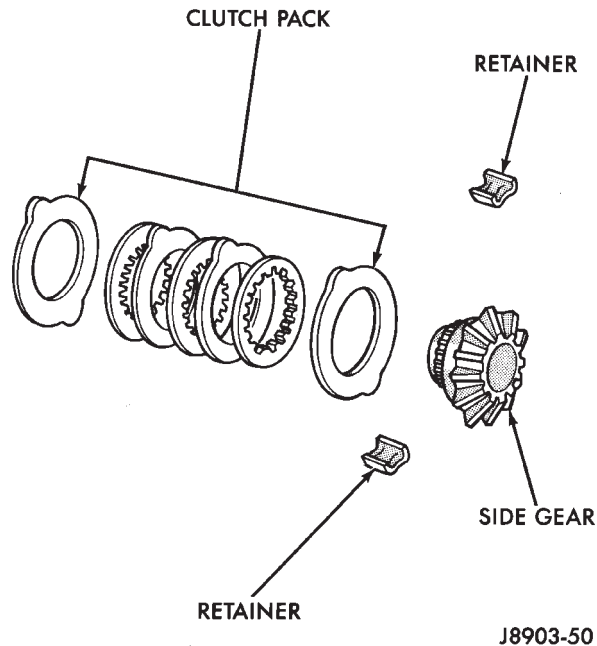
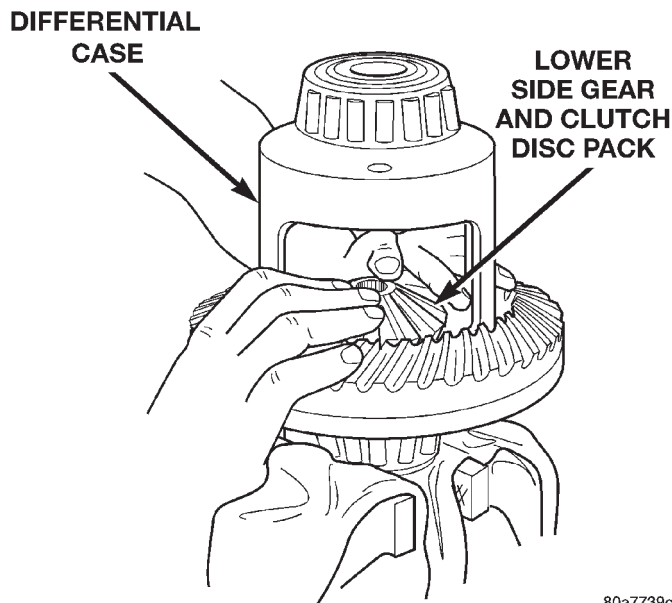
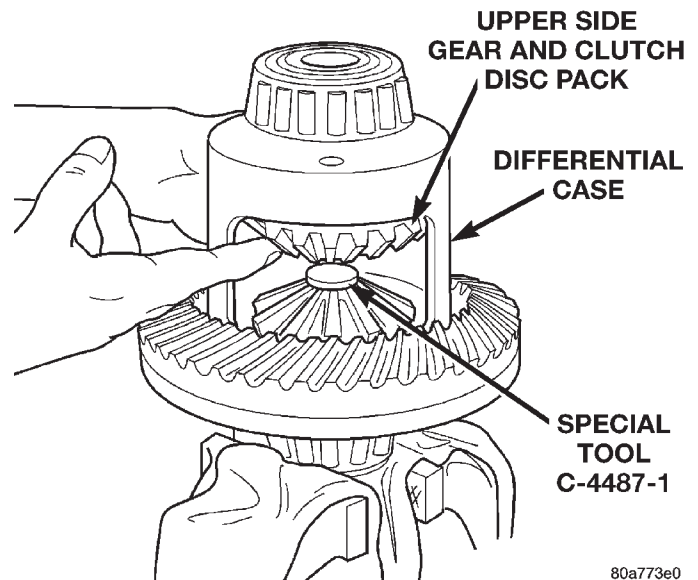

Fig. 54 Clutch Disc Pack
Fig. 55 Clutch Discs & Lower Side Gear Installation
Fig. 56 Upper Side Gear & Clutch Disc Pack Installation
(1) Assemble the clutch discs into packs and secure disc packs with retaining clips (Fig. 54).
(2) Position assembled clutch disc packs on the side gear hubs.
(3) Install clutch pack and side gear in the ring gear side of the differential case (Fig. 55). **Be sure clutch pack retaining clips remain in position and are seated in the case pockets.**
(4) Position the differential case on Side Gear Holding Tool 6963-A.
(5) Install lubricated Step Plate C-4487-1 on side gear (Fig. 56).
(6) Install the upper side gear and clutch disc pack (Fig. 56).
(7) Hold assembly in position. Insert Threaded Adapter C-4487-3 into top side gear.
(8) Insert Forcing Screw C-4487-2.
(9) Tighten forcing screw tool to slightly compress clutch discs.
(10) Place pinion gears in position in side gears and verify that the pinion mate shaft hole is aligned.